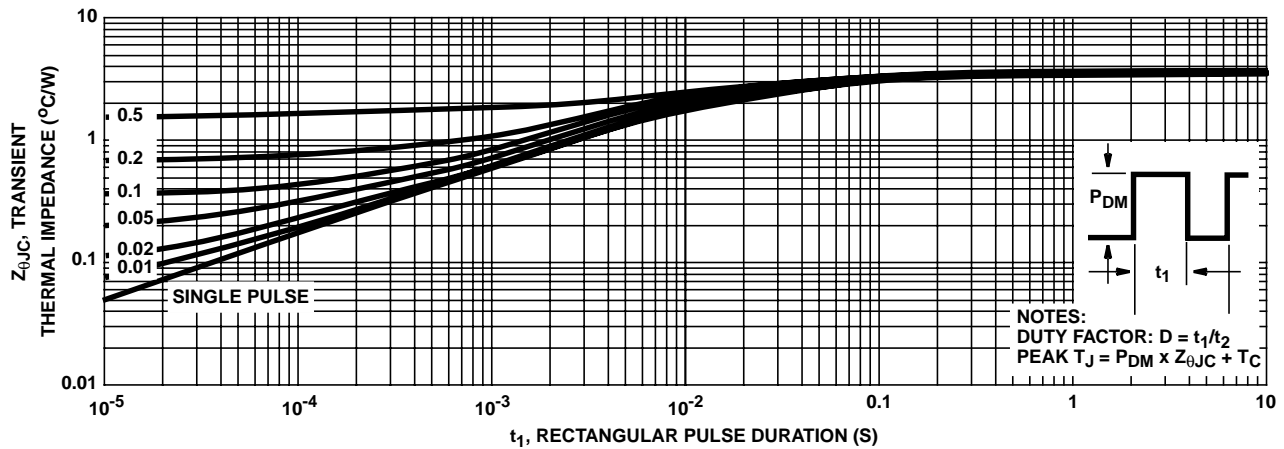

FIGURE 3. MAXIMUM TRANSIENT THERMAL IMPEDANCE
- Repetitive rating: pulse width limited by max junction temperature. See Transient Thermal Impedance curve (Figure 3).